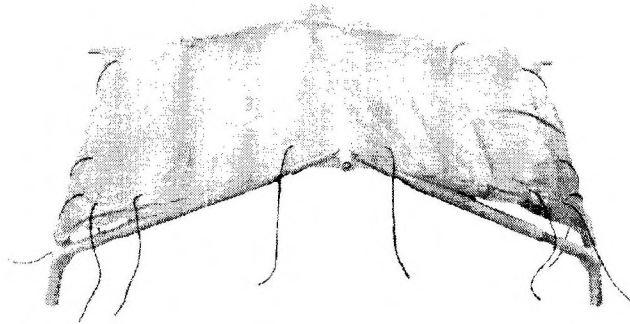

Fig 12 Roof frame with insulation panel unsecured (typical arrangement)
12.1 Lay the roof insulation panel, over the roof with white side facing inwards Fig 12. Loosely attach to the framework by the use of the tensioners, ensuring the ridge of the roof panel is aligned centrally.